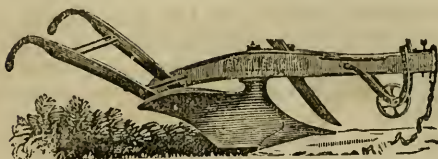

FIG. 1.
Fig. 1 represents **Eagle Ploughs C, D, or F**, with wrought coulter, laid with steel—also a wheel—which plough is well adapted to green-sward ploughing.
**Eagle C**—has a wheel and coulter, (see Fig. 1,) whose use and advantages will be readily appreciated. This plough is drawn by a pair of horses, or oxen; is of medium size, fitted for the ploughing of sod or stubble-lands. To turn a furrow with it six inches deep and eleven inches wide generally requires the strength of two mules. The furrow it cuts is some seven or ten inches in depth, and ten to twelve inches wide.
**Eagle D,**—WITH COULTER AND WHEEL.—See Figs. 1, and 2.—This is one size larger than Eagle C, and of the same construction. It cuts a furrow of any required depth from six to eight inches, and from twelve inches to fourteen inches wide. It is used in ploughing sod or stubble lands. For two horses, or one yoke of oxen.